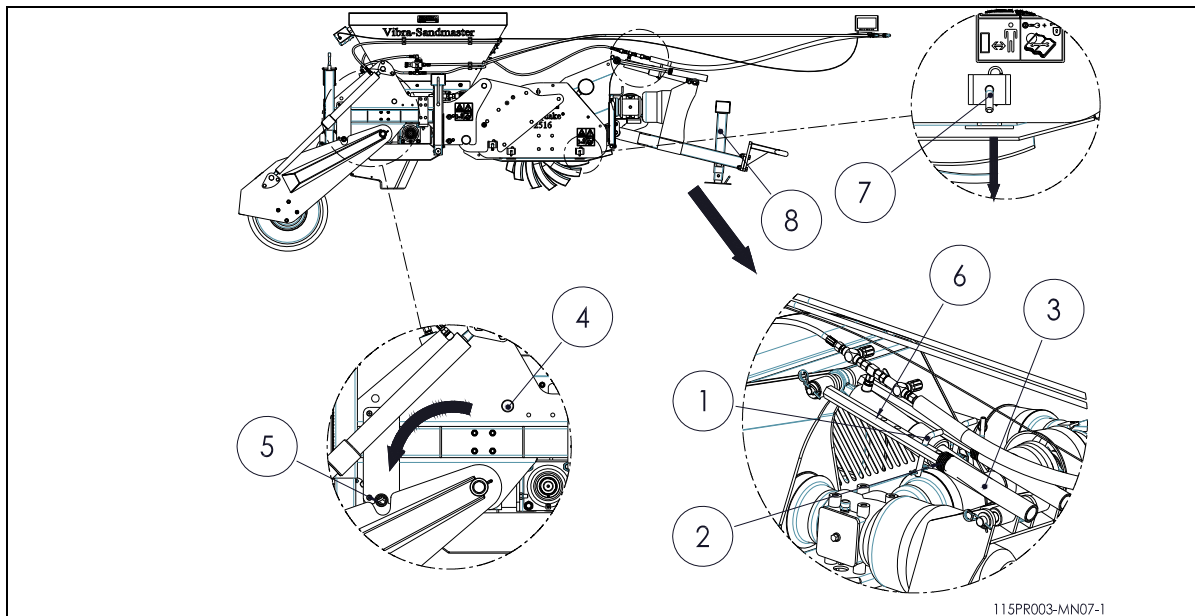

Fig.12
**In addition, at the front, pins 1 of stroke cylinders 3 must be inserted in the highest possible hole 6 (see Fig.12).**
The machine can be disconnected from the tractor in the following manner: (see Fig.12).